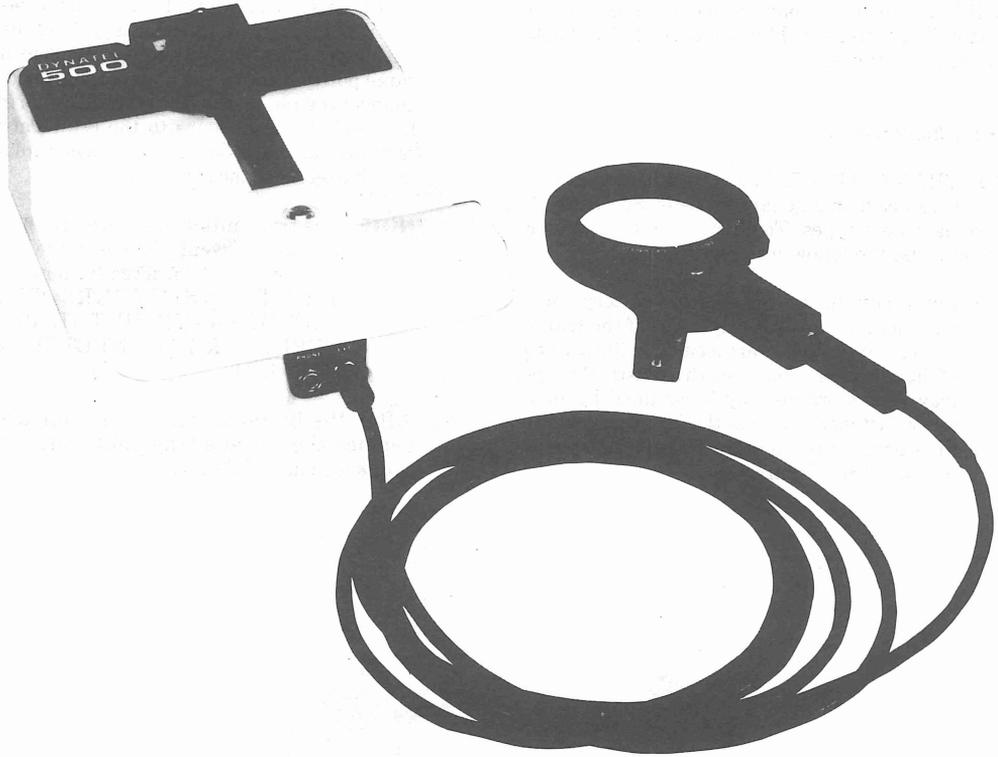

Fig. 12 — Receiver Setup for Cable Identification
- (b) With the coupler cable, connect the Dyna-Coupler™ to the receiver EXT input jack. Set the RECEIVER MODE selector to EXT. See Figure 12.